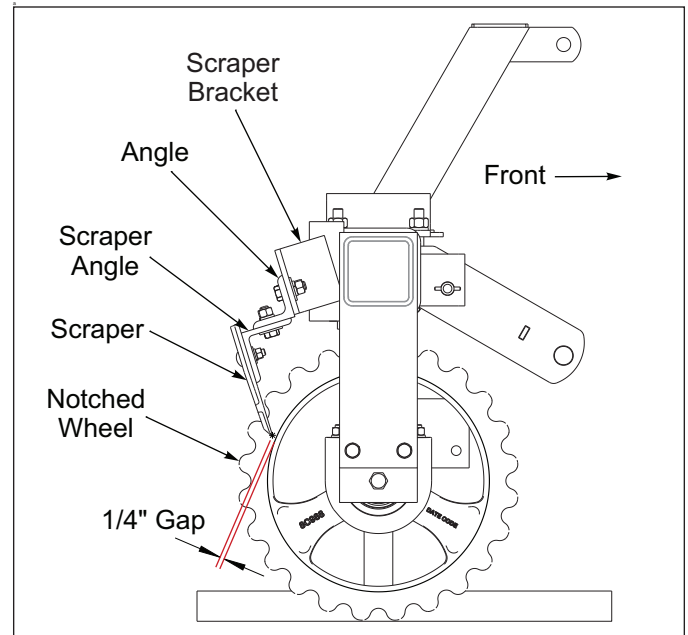

Figure 2-4: Scraper Kit Detail
2. Attach short Angles to the Scraper Angle with 1/2-13 x 1-1/2 Bolts, Flat Washers, Lock Washers, and Nuts. **See Figures 2-4 and 2-5.**
5. Center the Scrapers between the Notched Wheels. Position the Scrapers so that there is a 1/4" gap between the Scraper and the Notched Wheel. **See Figure 2-4.** Secure with 3/8-16 x 1-1/2 Carriage Bolts, Flat Washers, Lock Washers, and Nuts.